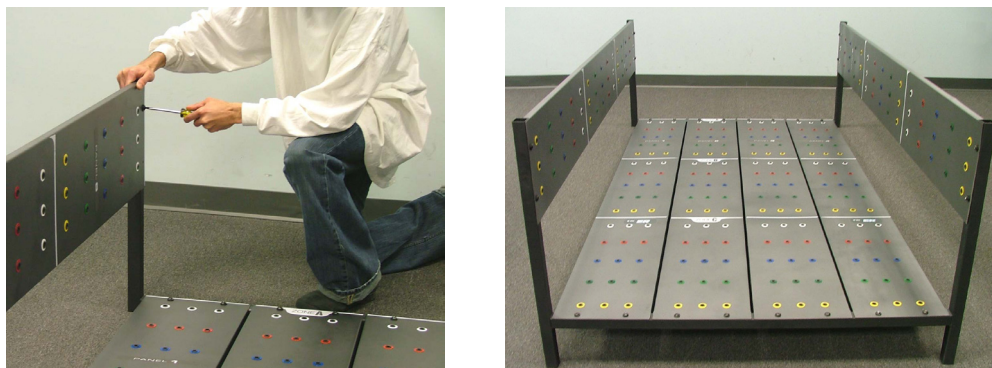

Figure 1-11. Attaching FROM Panel 6 and Completed Assembly
Step 3. Next, attach Panel 6 by placing one screw at the top of the panel and then one at the bottom. Finish securing the panels in place by attaching the remaining screws. Repeat this for Panel 5 (Figure 1-11).